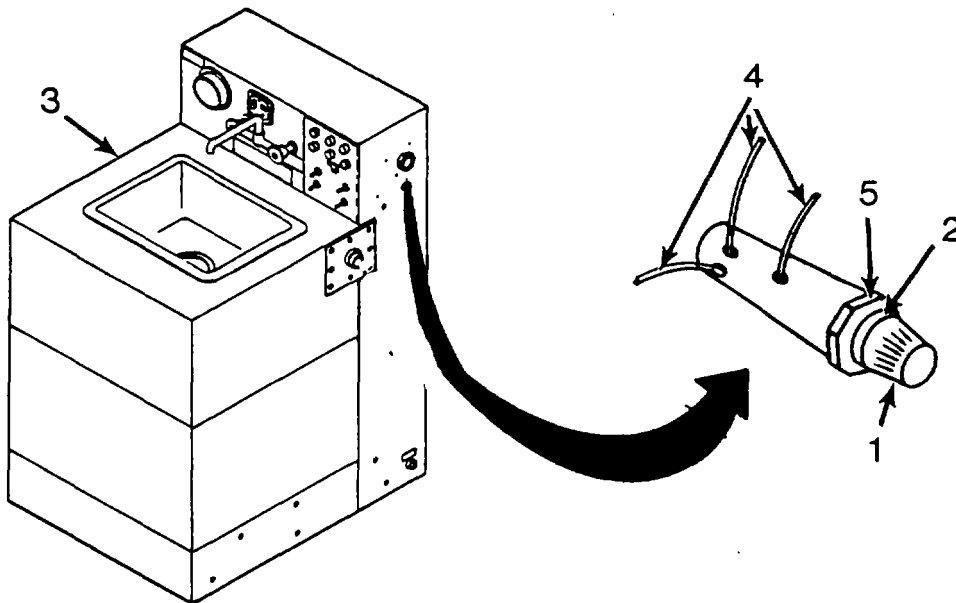

Figure 4-23. Replace Fuse Holder
g. Repair by Replacing Fuse Holder. (Figure 4-23.)
- (1) Remove fuse (1) from fuse holder (2) by rotating counterclockwise.